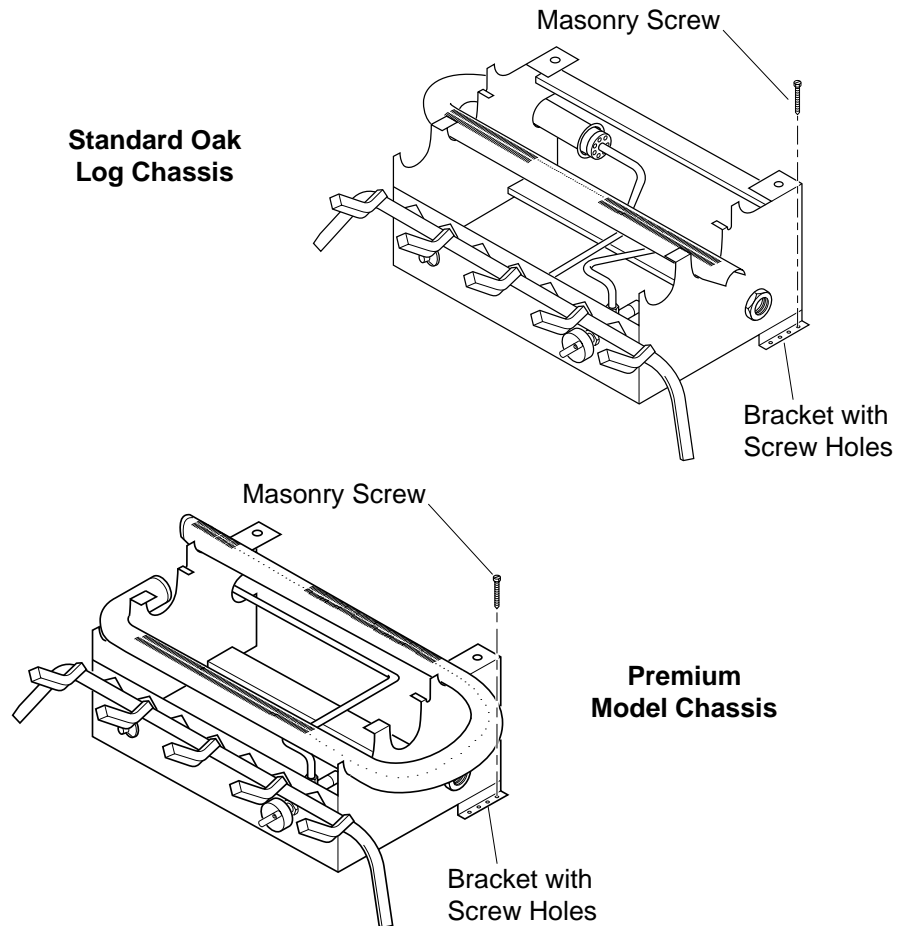

Figure 12 - Attaching Base Assembly to Fireplace Floor
4. Mark screw locations through one hole on each side of the mounting bracket (see Figure 12, page 16). If installing in a brick-bottom fireplace, mark screw locations in mortar joint of bricks.